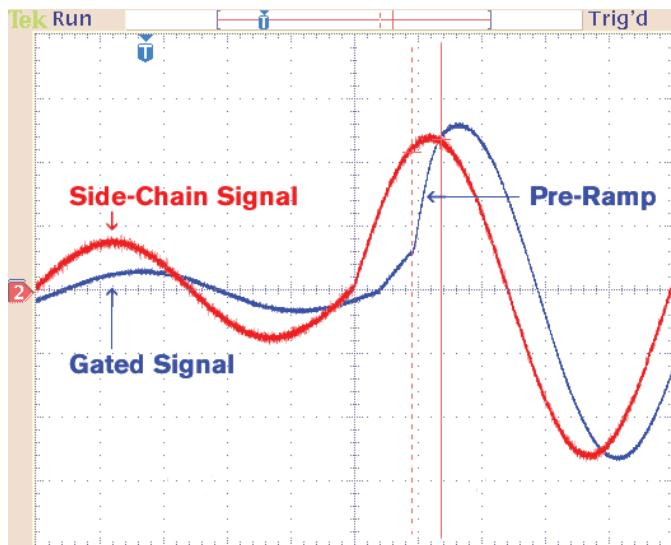

Figure 3: Look ahead pre-ramping (500 Hz signal)
- It is possible to tighten up the sound of frequencies below 1 kHz *without* the annoying click resulting from deep gate depth, high threshold and instantaneous attack settings (see Figure 3).